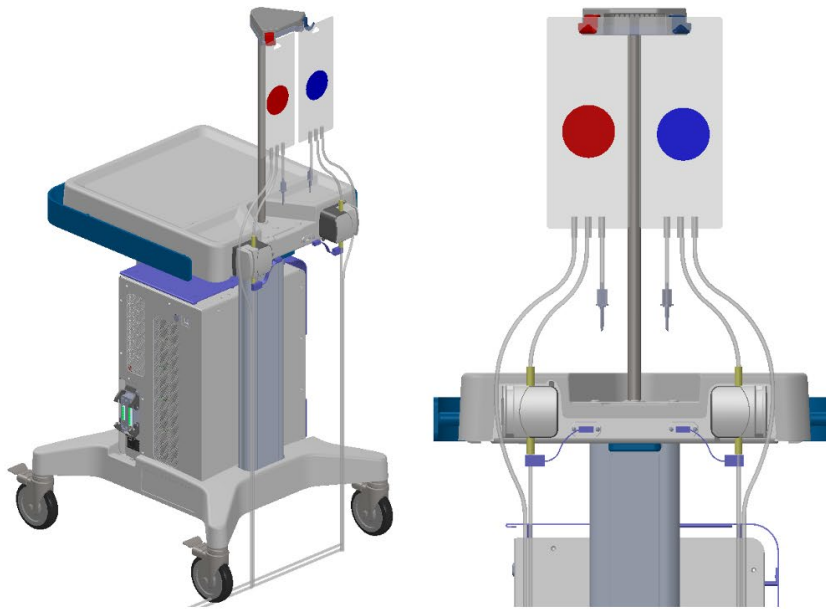

Figure 3. Preparing the system cart and fluid tube sets.
- f. Hang the ECD reservoir bag on the blue weight sensor hook on the System Cart (Figure 3).